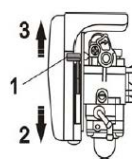

Fig.8
2. Fully close the choke, Fig.8